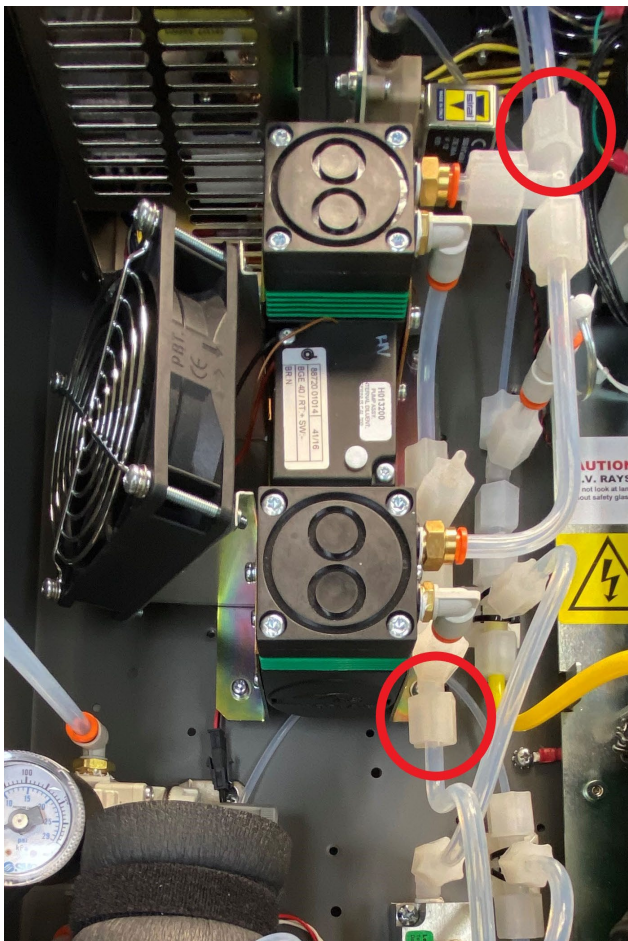

Figure 77 – Bypass Internal Diluent Pump
16. Disconnect the tubing as marked by the red circles in Figure 77. Connect a piece of bypass tubing with some unions to join the two pieces of tubing together, bypassing the internal diluent pump. The internal diluent pump has a pressure relief valve and your leak test **will not work** if the internal diluent pump is not isolated.